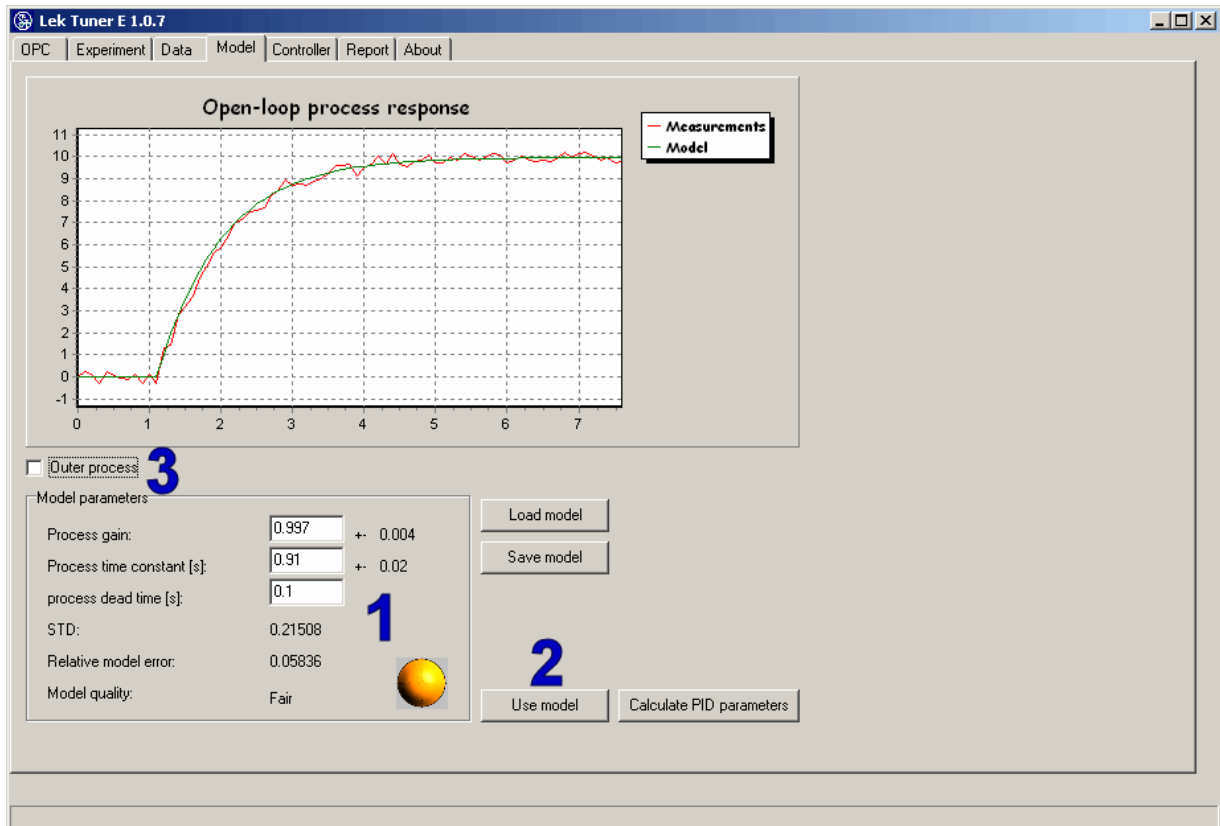

Figure 15. View of window “Model”.
Window (tab) “Model” appears (Figure 15), where the measurement and the process model response are shown on the same graph. Calculation of controller parameters is initiated by pressing button “Calculate PID parameters” (3).